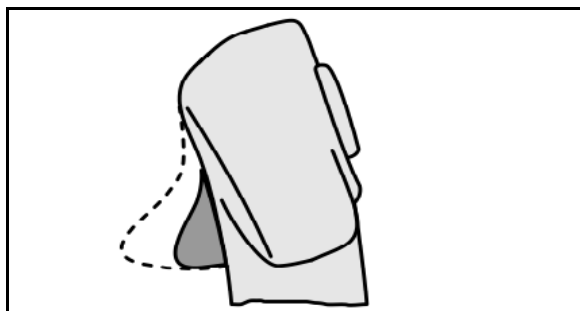

Fig. 115
- With multi-function stick according to Fig. 115.